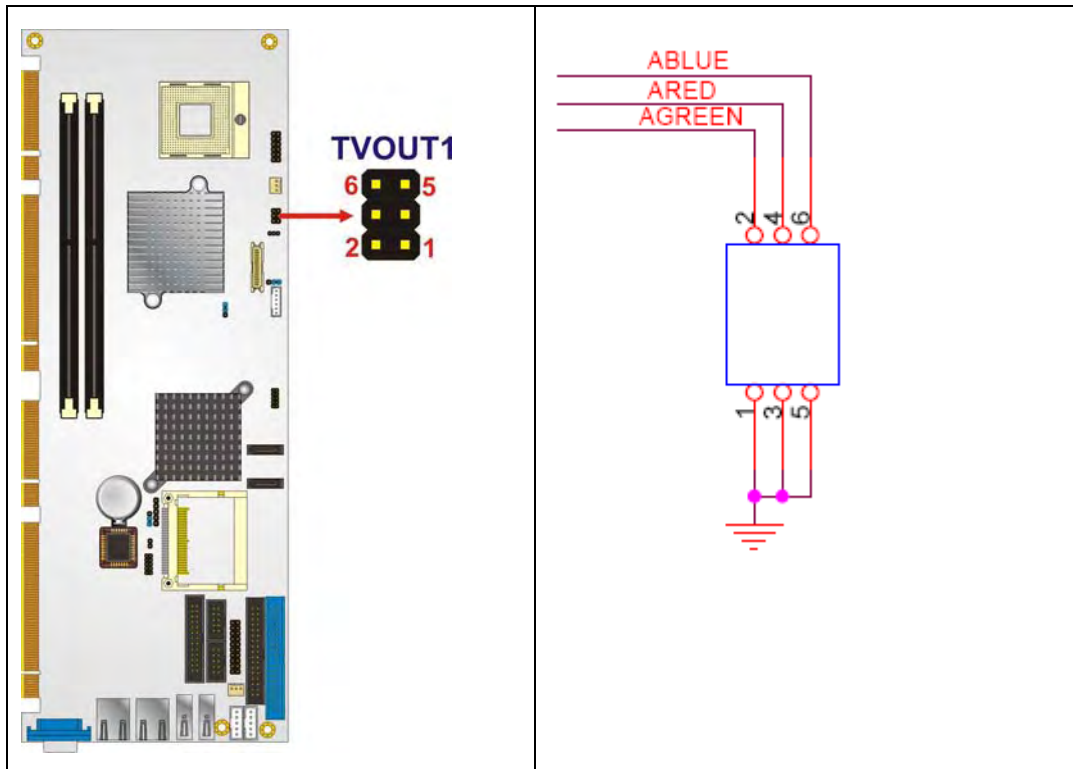

Figure 4-19: TV Connector Pinout Locations
- CN Location: See Figure 4-19
- CN Location:** See Figure 4-19